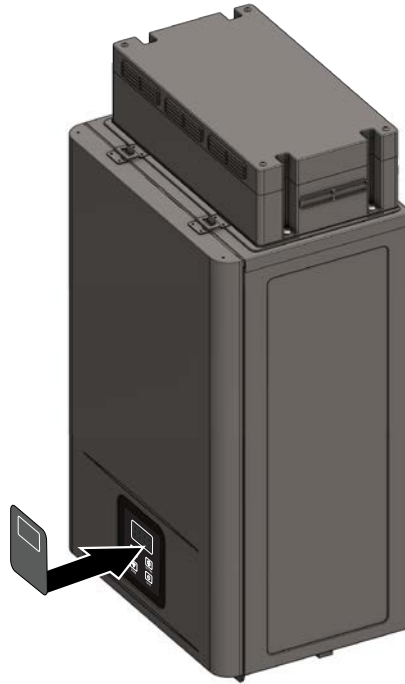

Figure 34 - Install UIM Overlay
- 3 Once the outdoor vent cap is secured to the water heater, install the UIM overlay to the digital display to protect it from hazardous weather conditions and accidental control adjustments (Figure 34).